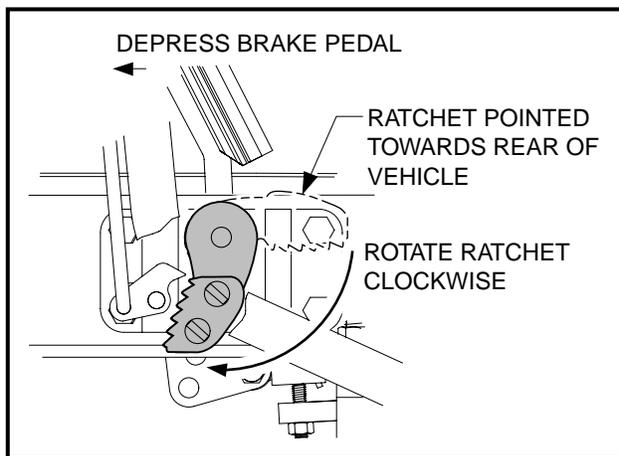

Figure 5-17 Ratchet Installation
5. Depress the brake pedal slightly, and with the park brake ratchet oriented so that the tip of the ratchet is pointed toward the rear of vehicle, slide the ratchet onto the pivot rod (do not slide the ratchet onto the pivot rod splines). Release the brake pedal and allow the ratchet to rotate until its tip is pointed downward (**Figure 5-17, Page 5-13**). The ratchet should now rotate freely on the rod.